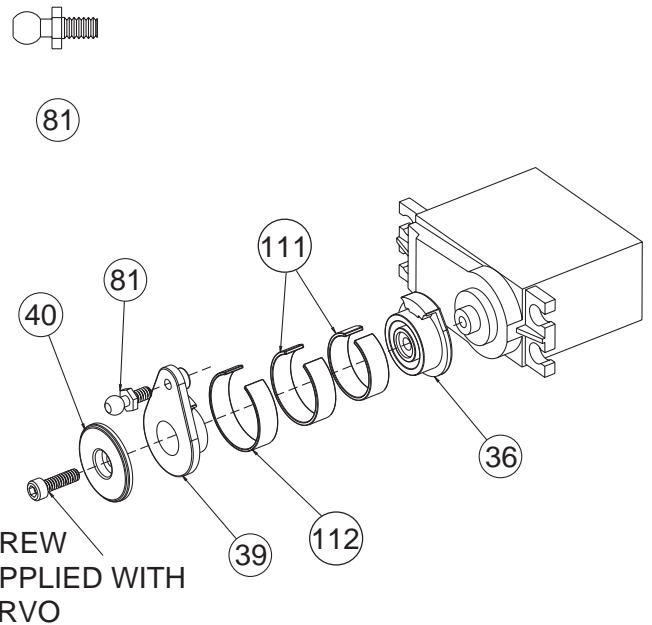

Figure 31
1. Using Table 31B (on the following page), determine which Servo Saver Base (36) is required for your Servo. If your particular servo is not listed, try using the Base recommended for another servo made by the same manufacturer.
2. Thread a 3/16" Ball Stud (81) into the outer Servo Saver Arm (39) from the front side as indicated in Figure 31.
3. Plug the servo into the radio system's receiver (*not included*). Make sure that there is power to the receiver, and turn the transmitter on, followed by the receiver. Be sure that the trim settings for the steering on your transmitter are set to the center. With the radio system still turned on, attach the Servo Saver Base to the output shaft of the servo so that the Base is vertical as shown in Figure 31.
4. Turn off your radio, slide one of the two "silver" Servo Saver Springs (111) over the Servo Saver Base which is connected to the servo. Fit the second of the "silver" Springs over the first Spring followed by the "gold" Spring (112). The Springs should all be pressed against the back of the Servo Saver Base.
5. Press the Outer Servo Arm into the Servo Saver Base. Insert the Servo Saver Washer (40) into the Outer Servo Saver Arm. Secure the assembly to the servo with the Servo Arm screw supplied with the servo.